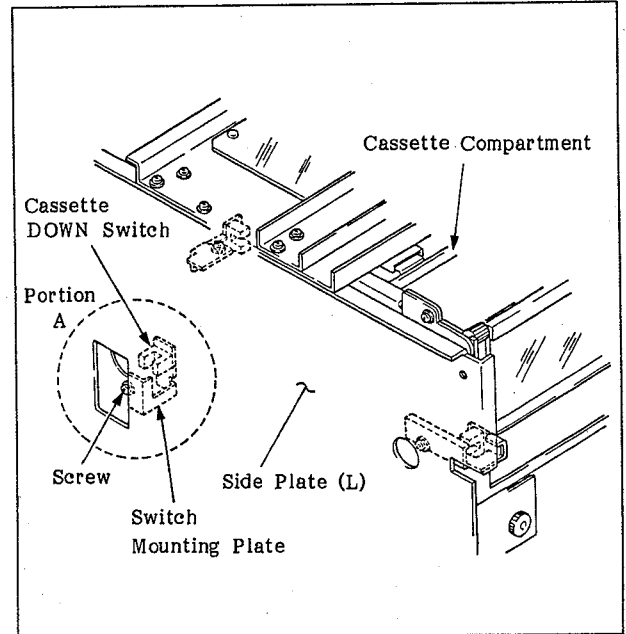
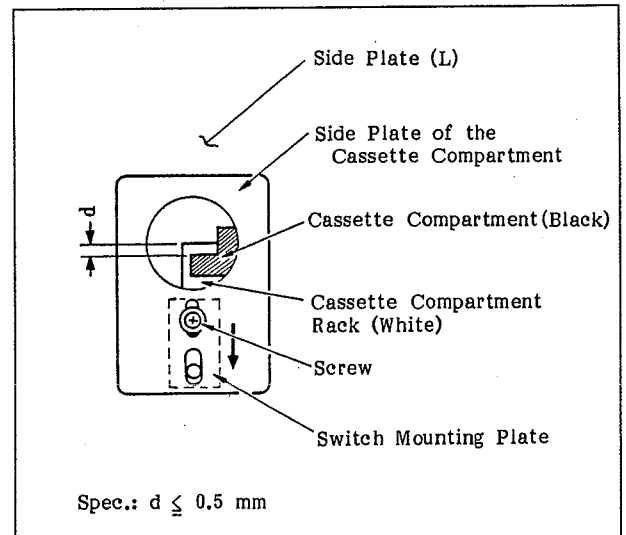

Fig. 6-18 Cassette DOWN Switch
Fig. 6-19 Adjusting the Position of the Cassette DOWN Switch
19. Press the **TEST**, **F3**(CHECKER), **F1**(CONTINUE), **F3** (C), **4**, **SET**, **F5** (E), **8**, **SET** keys on the control panel in that order to set the machine in the data check mode.
21. If portion A in Figure 6-18 does not meet the required specification shown in Figure 6-19, loosen the attaching screw of the down sensor mounting plate by a half or one turn and then adjust the position of the sensor mounting plate by sliding it into the direction of the arrow by about 0.5 mm.
22. Move the cassette up and insert the cassette in the cassette compartment again. Then, confirm again that portion A in Figure 6-18 meets the required specification shown in Figure 6-19. If it does not, repeat steps 21 and 22 until the required specification is met.